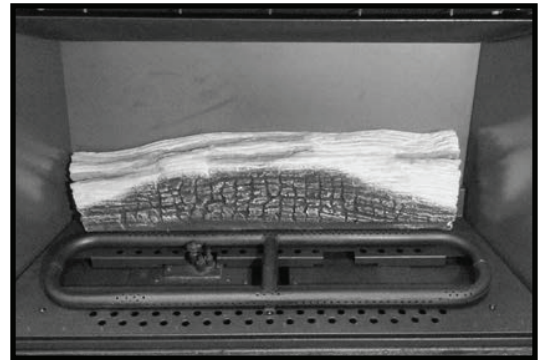

Figure 70: Rear Log Installation
1. Position rear log against the back firebox as seen in Figure 70.